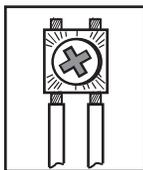

Figure 5: Wiring Connections
**Caution:** Do not use looped wire under terminals. Break wire run to provide supervision of connections. See Figure 5.